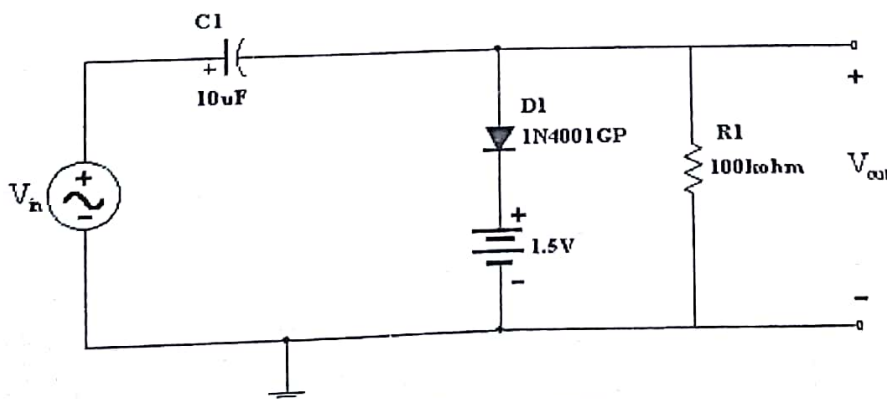

Fig.10: Clamper Circuit with DC Battery
13. Construct the circuit shown in Figure 10. Connect a 2 KHz , 10 V_{p-p} sine wave to the input and use the oscilloscope to observe the input and output signals.
14. Repeat step (12) for Figure 10.